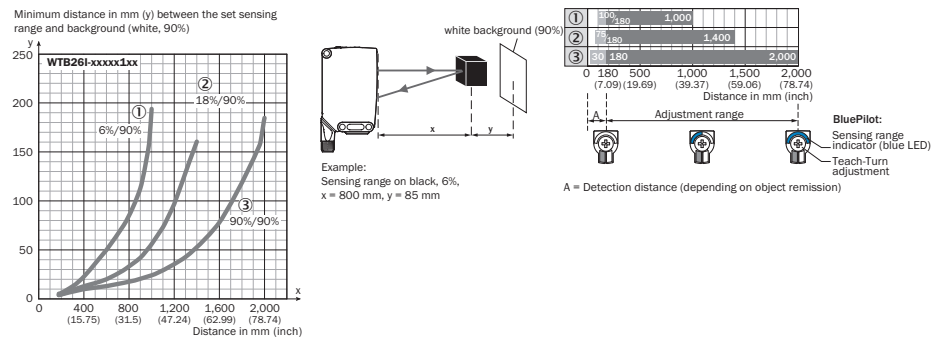

Figure 5: Characteristic line 3, WTB26 I-xxxx1 xx, infrared light
Check the application conditions: Adjust the sensing range and distance to the object or background as well as the remission capability of the object according to the corresponding diagram [see figures 5 and 6] (x = sensing range, y = minimum distance between set sensing range and background [white, 90%]) Remission: 6% = black ①, 18% = gray ②, 90% = white ③ (referring to standard white as per DIN 5033). We recommend that the adjustment be performed with an object of low remission.